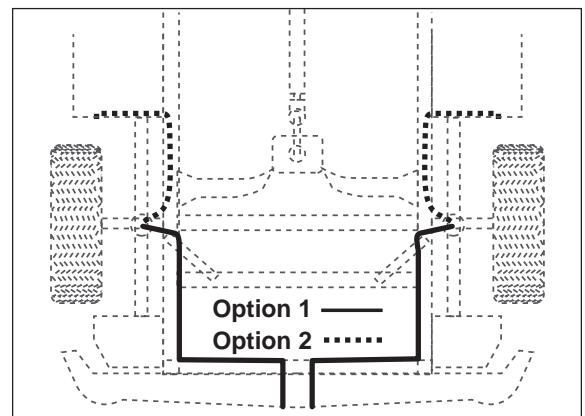

Figure 9
A. Select a location for the inflation valves in the rocker panel flange, or rear bumper, assuring that each valve will be protected and accessible with an air hose (Figure 9).